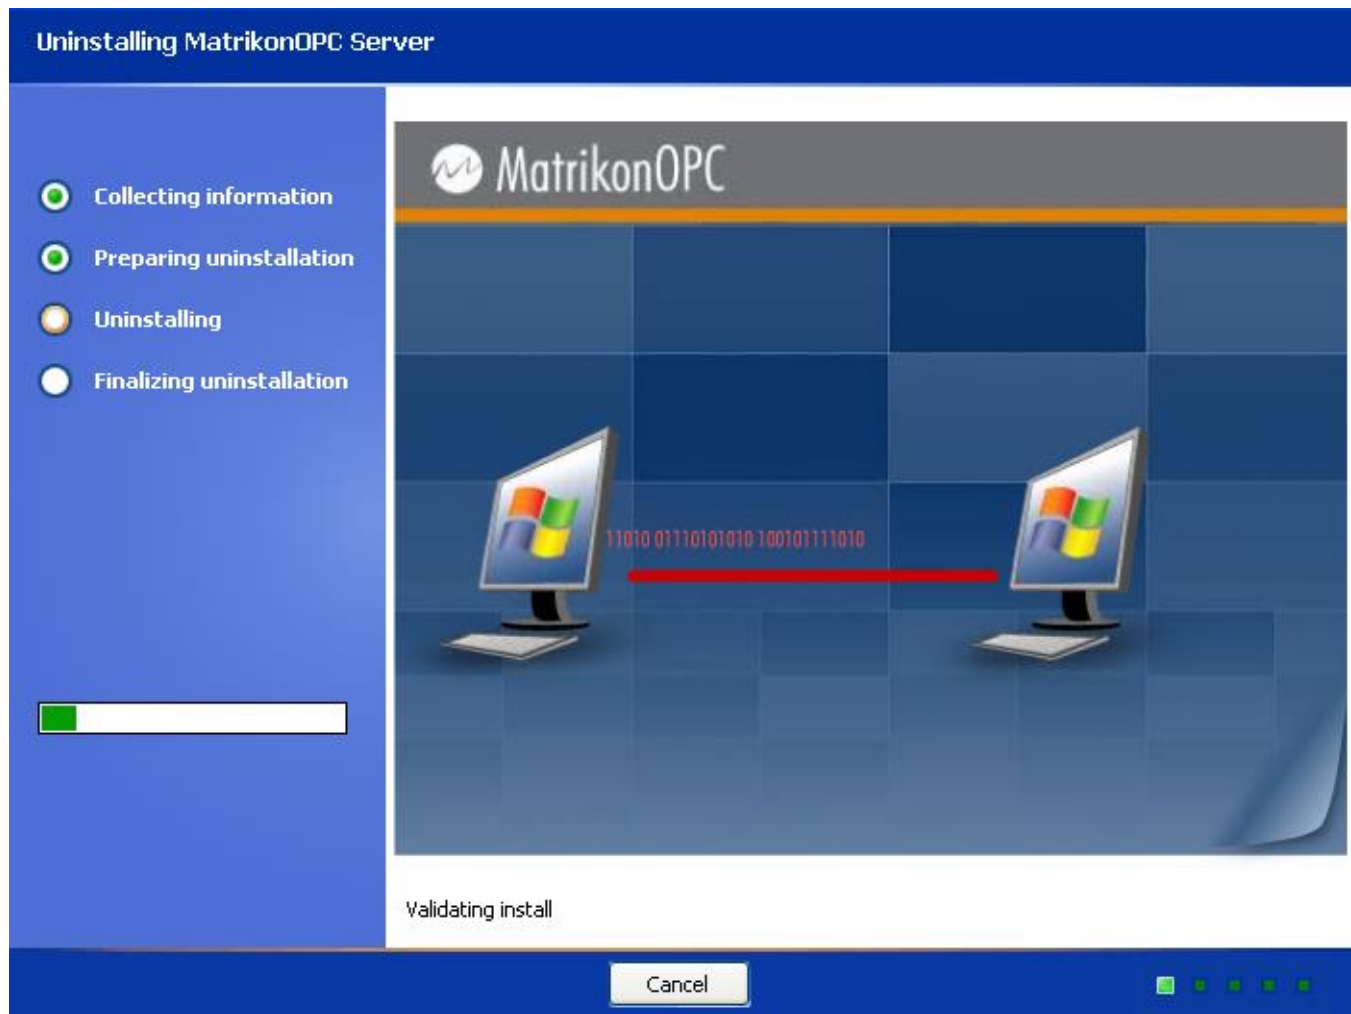

Figure 72 - Uninstalling MatrikonOPC Server for Triconex Screen
10. The **Uninstalling MatrikonOPC Server for Triconex** screen (Figure 72) appears and the un-install takes place.